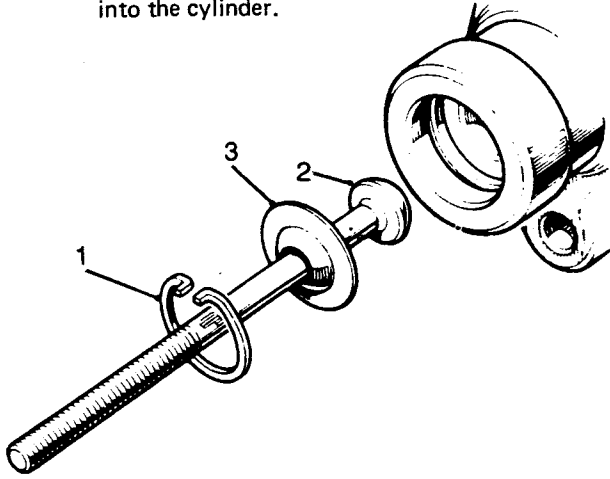

Fig H3.25
(11) Refer to Fig H3.25. Fit the push rod (2) retaining washer (3) and circlip (1).